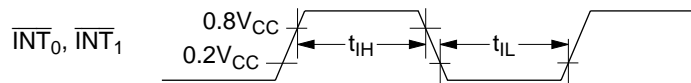

Figure 44 Interrupt Timing
4. See figure 44. The unit t_{cyc} is applied when the MCU is in standby mode or active mode.
6. See figure 44. The unit t_{subcyc} is applied when the MCU is in watch mode or subactive mode.